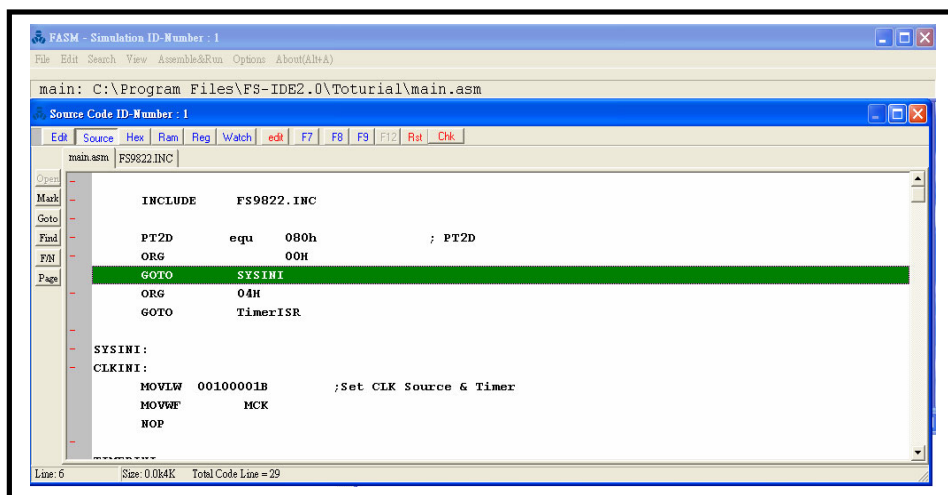

Figure 6.1 Successful entering into simulation
Step 2. Verification. Select 『Assemble&Run-> Assemble&Run(F10)』 from the tool bar, users may see the screen as shown in the Figure 6.1 after compiling. When the green highlight appears in “Source” means the setting successes.